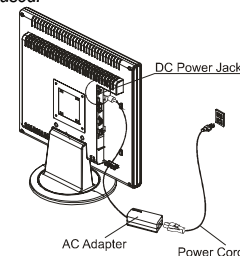

Figure 1-6
1. Connect the power cord to the AC adapter. (See Fig. 1-6)